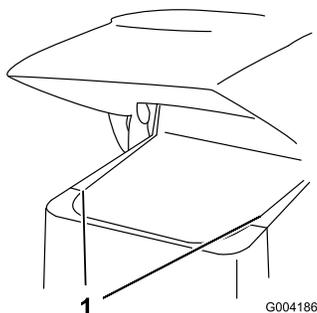

Figure 26
2. Tilt the rear-access cover down and remove it to access the internal components (Figure 26).
2. Slide the side screens (Figure 26) up and out of the slots in the front screen and frame.